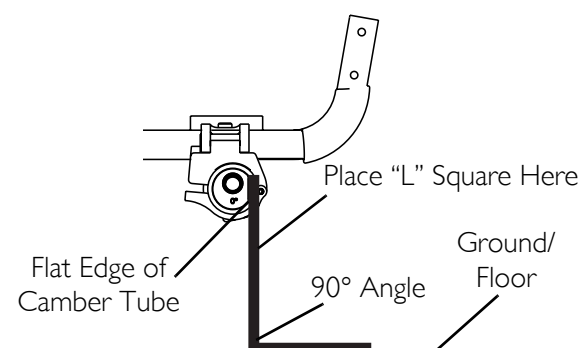

FIGURE 6.17 Adjusting the Axle Tube - Camber Tube 2000
NOTE: For this procedure, refer to FIGURE 6.17.
2. Using an "L" square, rotate the axle tube until the flat edge of the camber tube is at a 90° angle with the ground/floor as shown in FIGURE 6.17.